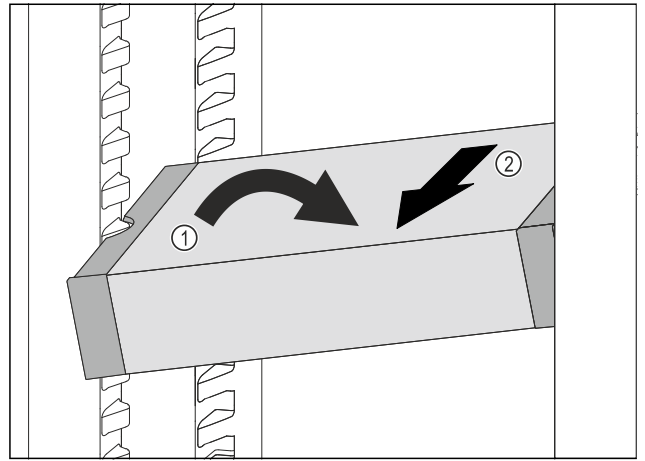

Fig. 81
- Set VarioSafe in refrigerator compartment at an angle. Fig. 81 (1)
- Take VarioSafe out to the front. Fig. 81 (2)